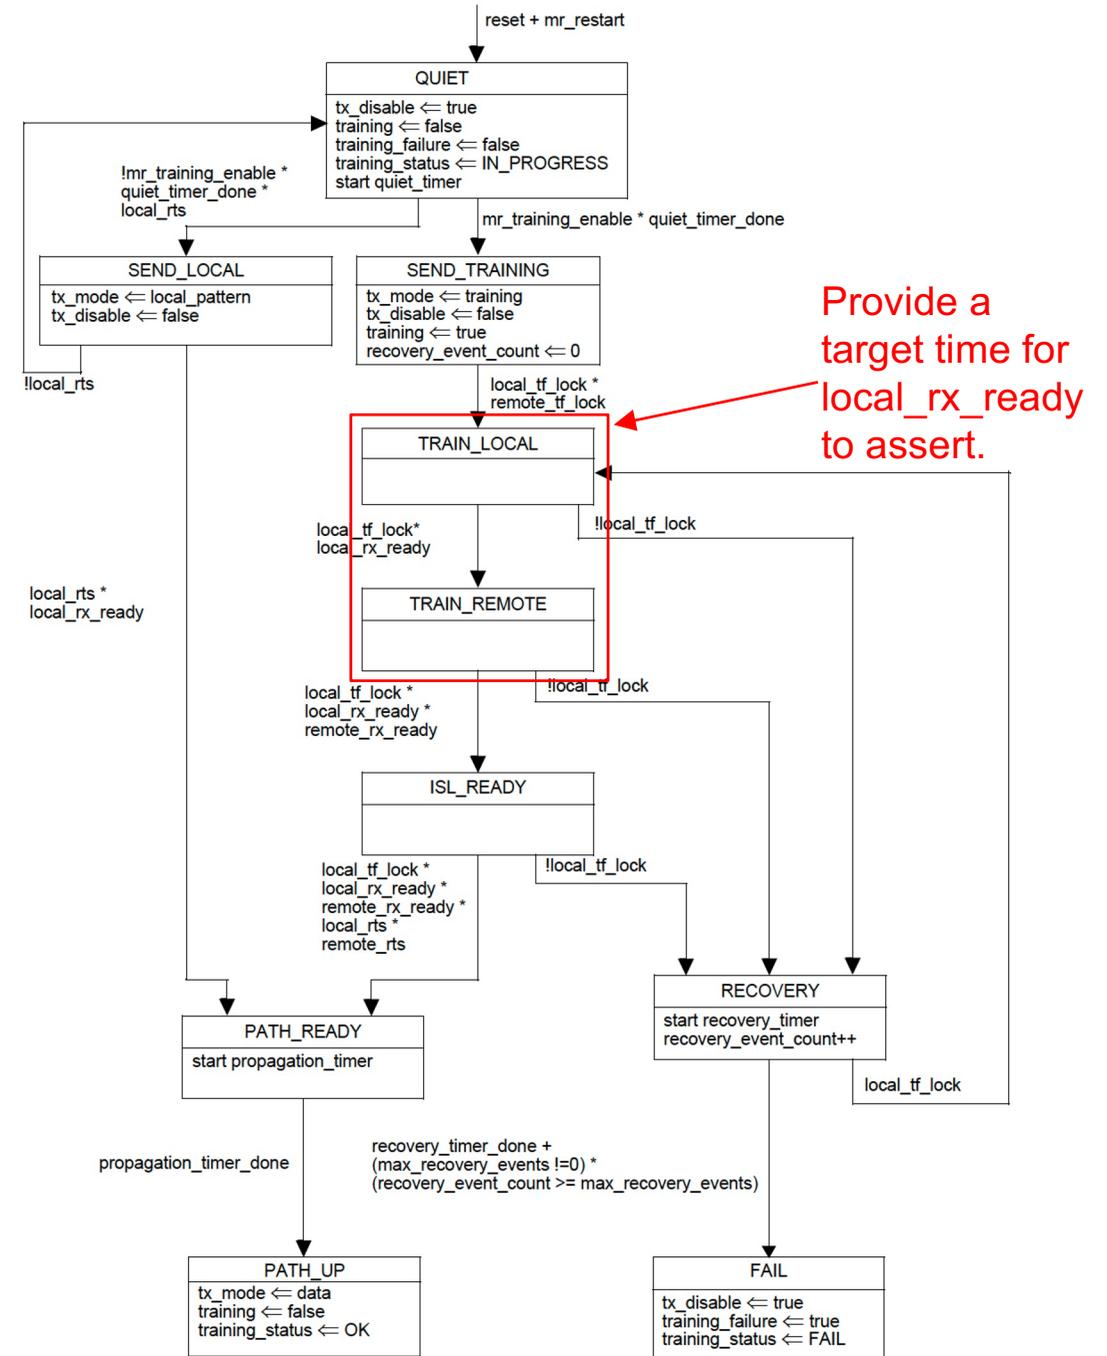

Figure 178B-8—Training control state diagram
- Add sentence “To support reasonable link-up time durations, the time from exiting SEND_TRAINING to entering ISL_READY should be no more than X seconds (see Figure 178B-8).”